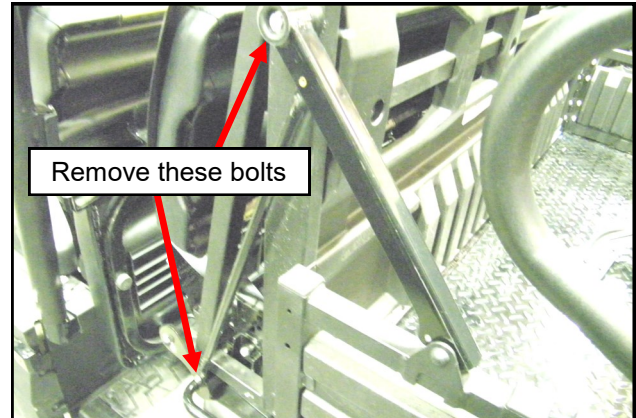

Fig. 3.1 (Rear seat latch mechanism)
**3.1** Per figure 3.1, remove the rear seat latch mechanism from each side by removing the metric screws at each pivot point. Retain the screws.